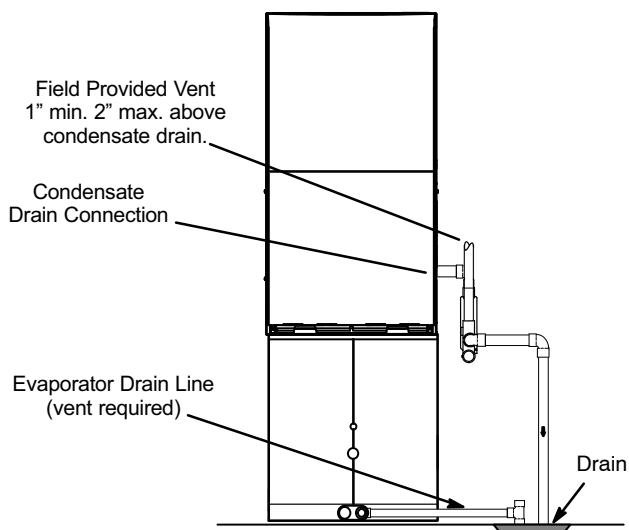
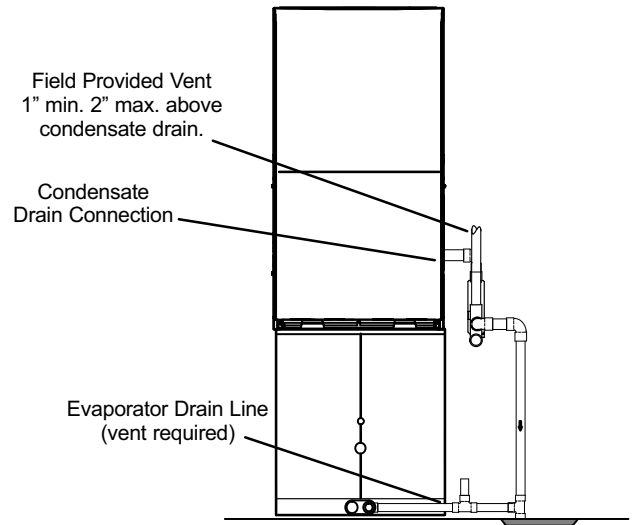

FIGURE 43
FIGURE 44
- 5 - Figure 43 shows the furnace and evaporator coil using a separate drain. If necessary, the condensate line from the furnace and evaporator coil can drain together. See figures 44 and 45. The field provided vent must be a minimum 1" to a maximum 2" length above the condensate drain outlet connection.